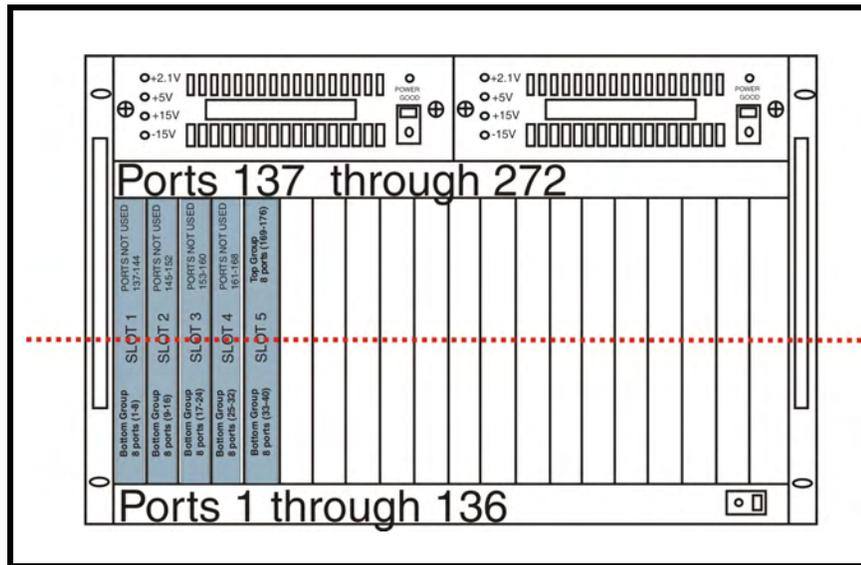

FIGURE 13. ADAM frame with both AIO-8 and AIO-16 cards.
The ADAM Intercom System can run both the AIO-8 and AIO-16 card in the same frame. You can position your AIO-8 and AIO-16 cards in any slot or in any sequence within the ADAM frame. However, when mixing the AIO-8 and AIO-16 cards, it is important to know the port numbering is consistent with the 2-tier port system. For example, in slots 1, 2, 3, and 4, you have AIO-8 cards and in slot 5 you have an AIO-16 card. The port numbering scheme assigns eight (8) ports per card for the first four (4) slots. When assigning ports to slot 5, the bottom group of ports are assigned in sequence with the AIO-8 cards; however, the top group of ports associated with the AIO-16 card are assigned the corresponding ports with the card position. This means ports 137 through 168 are unused and the top group of ports used by the AIO-16 card starts with port 169 (see Figure 13).